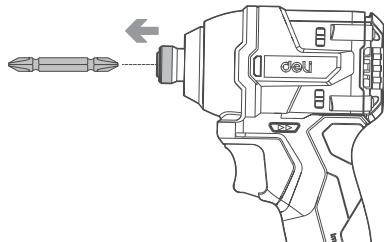

Figure B1
- When installing the bit, pull the sleeve in the arrow direction and insert the bit all the way to the innermost end of the sleeve. Then release the sleeve to secure the bit. (See Figure B1)